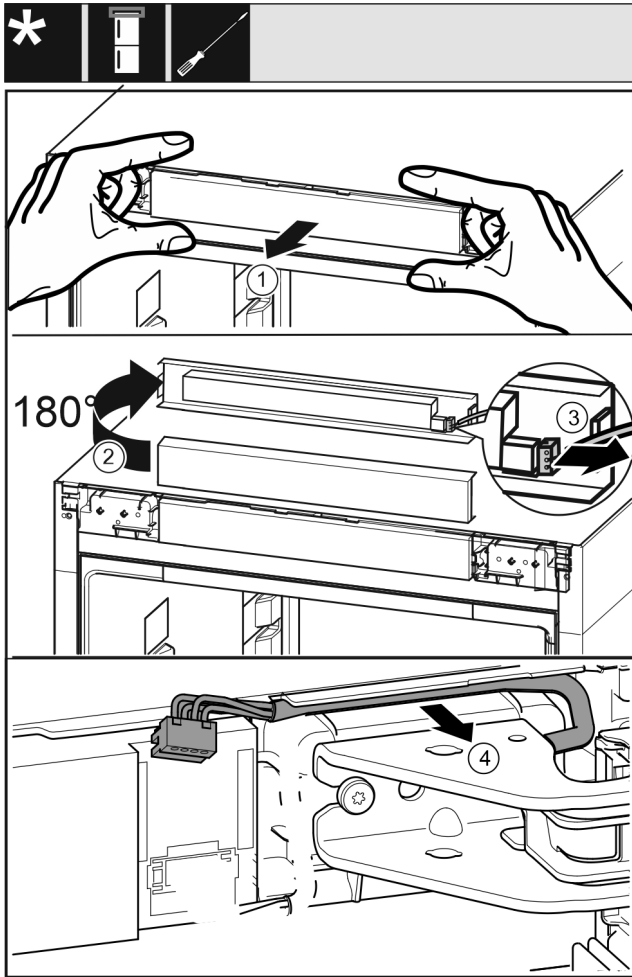

Fig. 17
- ▶ Loosen the control panel of the appliance carefully to the front. Fig. 17 (1)
- ▶ Turn the control panel up by 180°. Fig. 17 (2)
- ▶ Press the latching lug backward and pull out the plug carefully. Fig. 17 (3)
- ▶ Carefully remove the cable over the bearing bracket from the guide. Fig. 17 (4)